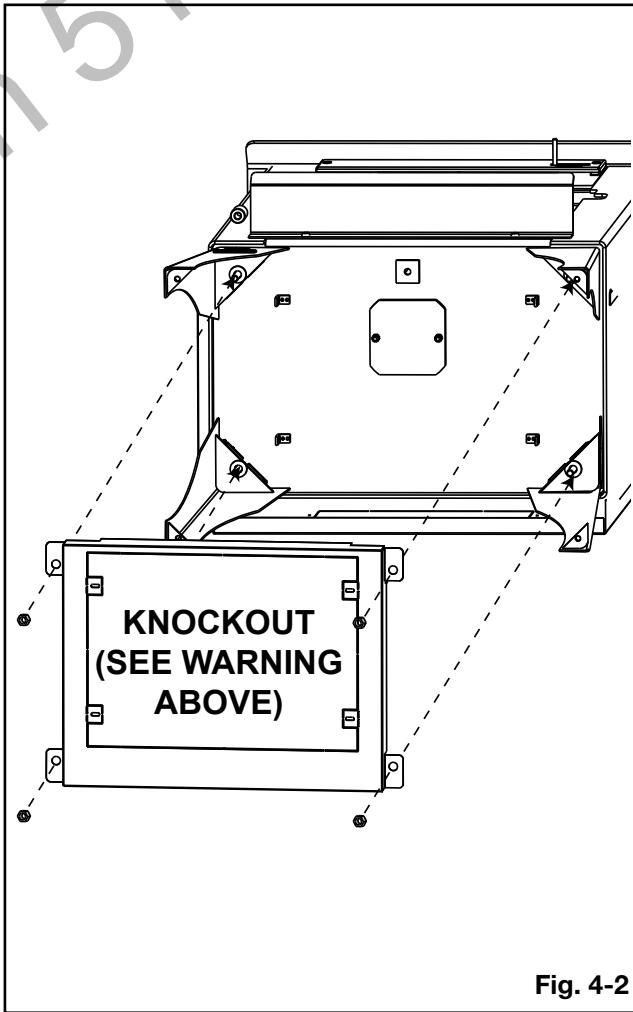

Fig. 4-2
- Slide the heat shield over the four bolts. Finally, secure the heat shield in place using the remaining nuts (**Fig. 4-2**).